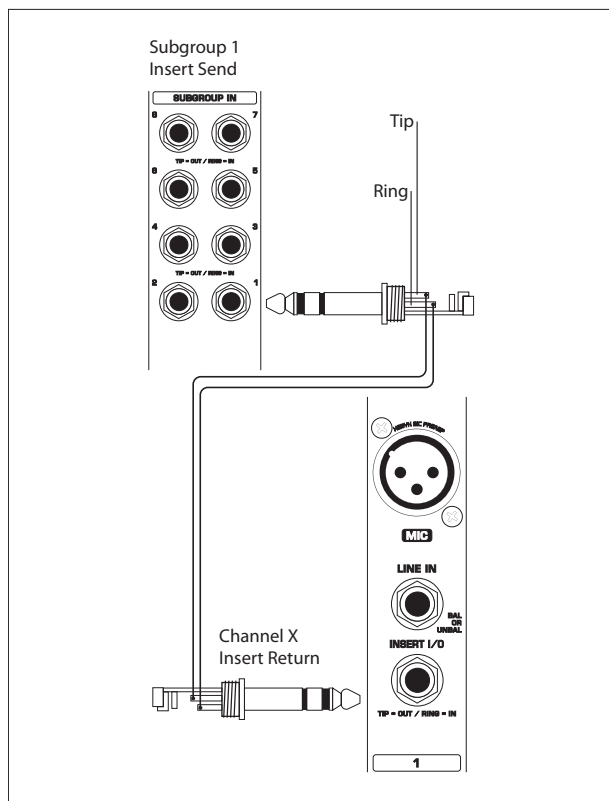

Fig. 5.3: Making use of the channel EQ for shaping subgroup-signal by applying inserts
- ♦ SX3282 insert points are, of course, simultaneously inputs and outputs. For goodness sake, get them onto a patchbay, where they can appear as independent sockets, and do away with all these fiddly Y-leads that always seem to be the first to get knotted in the flightcase (see section 9 “Patchbay”). Now it is possible to do the incredibly useful patch shown in fig. 5.3 without having to make up what would amount to a ring-to-tip, tip-to-ring stereo patch lead.